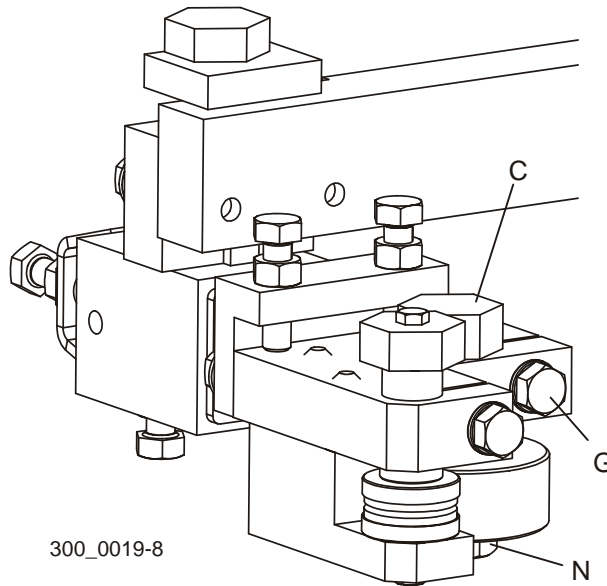

FIG. 5-18
3. Turn bolt (A) counterclockwise on each blade guide assembly up until the bottom guide disks touch the blade, but do not deflect it upward.
4. Turn bolt (F) clockwise to adjust the top guide disk on each blade guide assembly back down until it touches the blade, then back up 1/4 - 1/2 turn. Tighten clamp bolt (H).
See Figure 5-18. To adjust, loosen clamp bolt (G) and turn bolt (C) to move the roller toward or away from blade. Raise or lower the roller to avoid the blade contacting an existing groove in the roller. Retighten clamp bolt (G). **NOTE:** If the roller is completely grooved on one end, remove bolt (N) and flip the roller to use the other end. If both ends